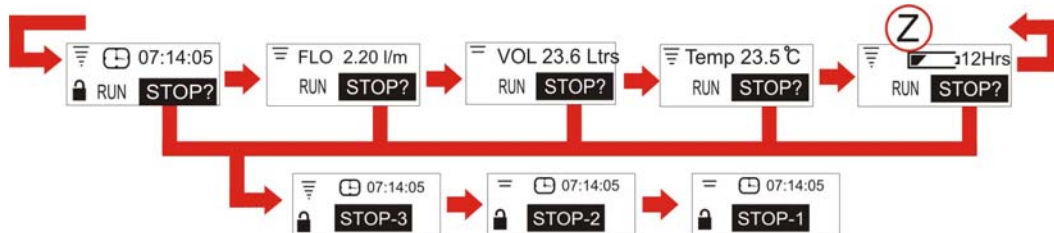

Figure 6 Run Mode Main Menu
C. RUN MODE MAIN MENU (Fig. 6)